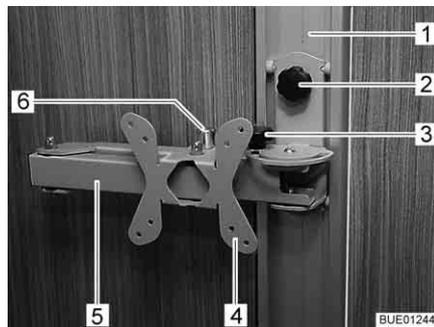

Fig. 48 Rail-mounted holder
- Undo the tommy screw (Fig. 48,2) and adjust the holder (Fig. 48,4) in the rail (Fig. 48,1) until it is at the desired height.
- Undo the tommy screw (Fig. 48,3).
- Pull the release knob (Fig. 48,6). The jointed arm (Fig. 48,5) is unlocked.
- Re-tighten the tommy screw (Fig. 48,3).
- Swing the flat screen back into its original position until you hear the jointed arm (Fig. 48,5) lock into position.
- Undo the tommy screw (Fig. 48,2), adjust the holder (Fig. 48,4) to the desired height and re-tighten the tommy screw.